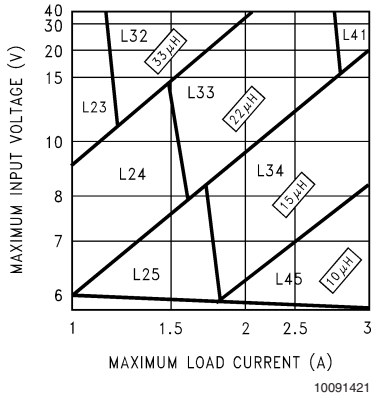
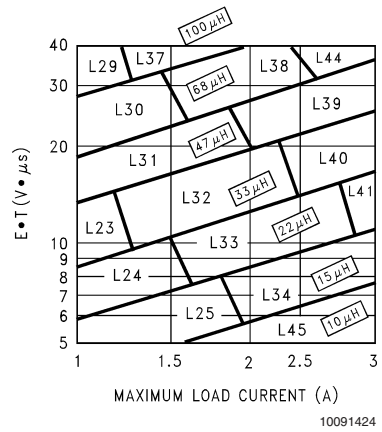

FIGURE 3. LM2676-3.3
FIGURE 6. LM2676-ADJ
Step 3: Determine the inductor required by using one of the four nomographs, *Figure 3* through *Figure 6*. Table 1 provides a specific manufacturer and part number for the inductor.
Step 5: Determine an input capacitor from Table 4 for fixed output voltage applications. Use Table 2 to find the specific capacitor type. For adjustable output circuits select a capacitor from Table 2 with a sufficient working voltage (WV) rating greater than $V_{in\ max}$, and an rms current rating greater than one-half the maximum load current (2 or more capacitors in parallel may be required).
Step 3: Use the nomograph for the 3.3V device, *Figure 3*. The intersection of the 16V horizontal line ($V_{in\ max}$) and the 2.5A vertical line ($I_{load\ max}$) indicates that L33, a $22\mu\text{H}$ inductor, is required.
Step 3: To use the nomograph for the adjustable device, Figure 6, requires a calculation of the inductor Volt•microsecond constant (E•T expressed in V•μS) from the following formula:
Using Figure 6, the intersection of 27V•μS horizontally and the 2A vertical line (I_{load max}) indicates that L38, a 68μH inductor, should be used.
Important Note: When using the adjustable device in low voltage applications (less than 3V output), if the nomograph, Figure 6, selects an inductance of 22μH or less, Table 6 does not provide an output capacitor solution. With these conditions the number of output capacitors required for stable operation becomes impractical. It is recommended to use either a 33μH or 47μH inductor and the output capacitors from Table 6.